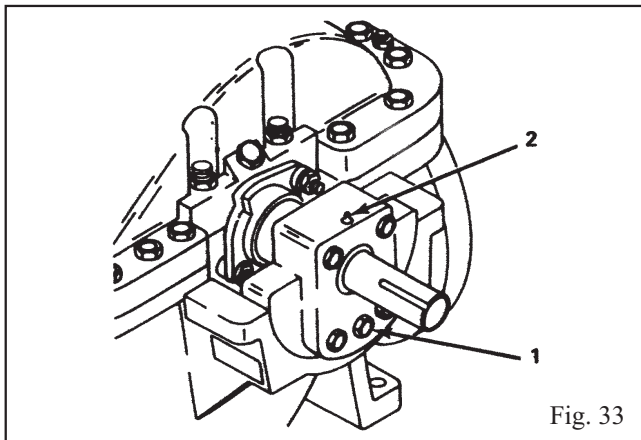

Fig. 33
1. Remove relief plug (1) on bearing housing. See Fig. 33.
2. Insert grease through fitting (2) until grease appears through relief plug hole.